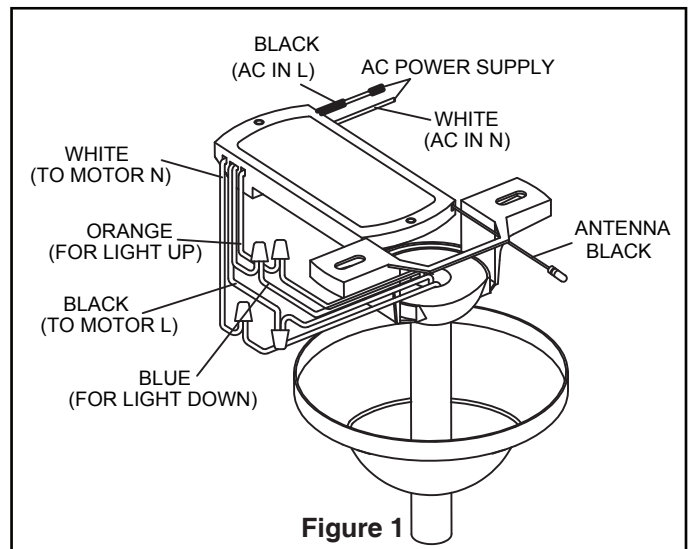

Figure 1
- Connect wires using connectors as shown in Figure 1.